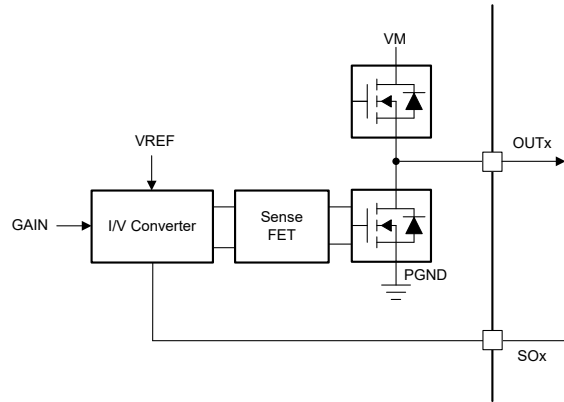

図 8-19. Integrated Current Sense Amplifier
図 8-19 shows the internal architecture of the current sense amplifiers. The current sense is implemented with a sense FET on each low-side FET of the DRV8317 device. This current information is converted in to a voltage based on the CSAREF pin (VREF) input and the CSA gain setting; this voltage is available on the SOx pin. The CSA output voltage can be calculated using 式 2
$SOx = V_{REF}/2 + (G_{CSA} * I_{OUTx})$, wherein I_{OUTx} is considered positive in the direction shown in 図 8-19. (2)